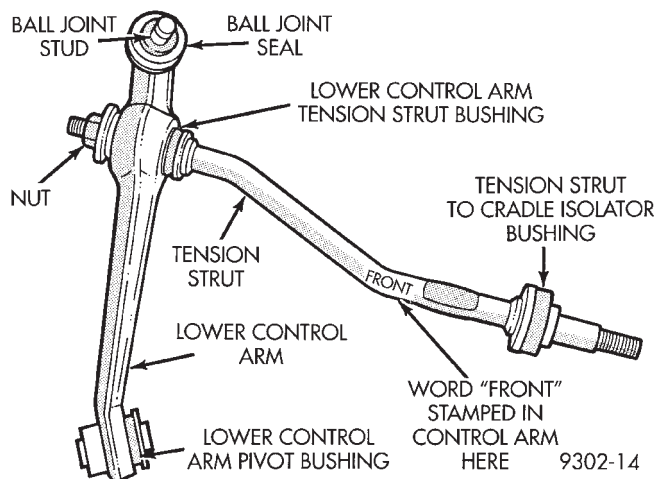

Fig. 20 Tension Strut Installed In Lower Control Arm
(3) Replace tension strut to lower control arm isolator bushing. Refer to Lower Control Arm Bushing Service in this section of the service manual for tension strut isolator bushing removal and installation procedure.
(4) Install tension strut into tension strut bushing on lower control arm assembly. Position tension strut in lower control arm as shown in (Fig. 20), with word **FRONT** stamped in tension strut positioned away from control arm (Fig. 20). With an open end wrench on flat of tension strut, to keep tension strut from turning. Torque **NEW** tension strut to lower control arm retaining nut to 175 N•m (130 ft. lbs.)